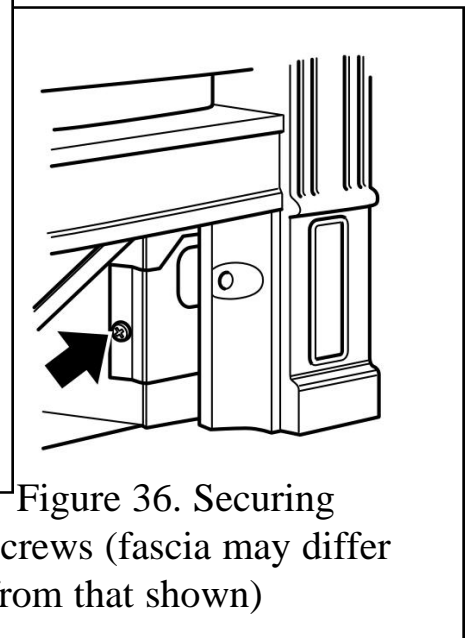

Figure 36. Securing screws (fascia may differ from that shown)
3. Remove the two screws securing the bottom of the fascia to the sides of the hotbox (See figure 36).